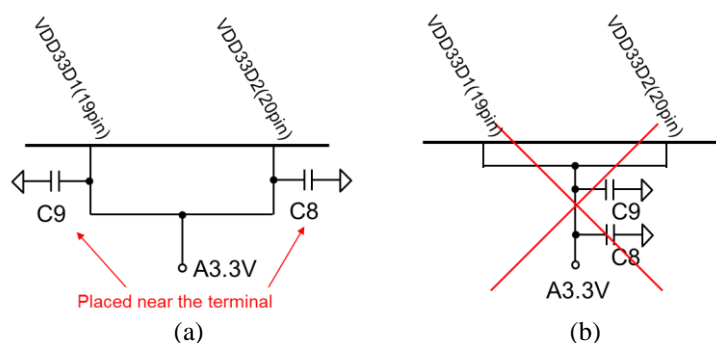

Figure 2-6 Example of connecting the decoupling capacitor of the power supply terminal of the DC-DC converter
- Figure 2-6 shows an example of connecting the decoupling capacitor of the power supply terminal of the DC-DC converter. As shown in (a), place the decoupling capacitor in the immediate vicinity of the power supply terminal.